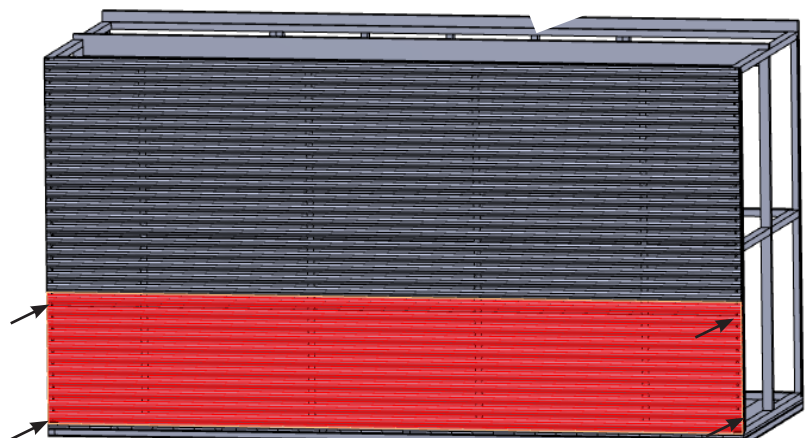

Fig.4
- Repeat with the bottom wall sheet (Fig.4) Bottom wall sheet should finish approx 30mm below bottom of base plate.